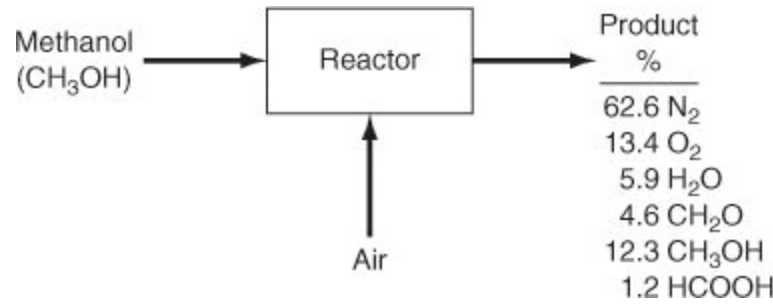

Figure P5.3.3
****5.3.3.** Examine the reactor in Figure P5.3.3. Your boss says something has gone wrong with the yield of CH₂O, and it is up to you to find out what the problem is. You start by making material balances (naturally!). Show all calculations. Is there some problem?